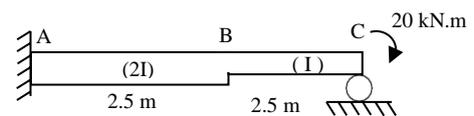

Fig. 4
- (c) Using method of consistent deformation, analyze the propped cantilever beam shown in Figure 4, and draw shear force and bending moment diagrams. **07**